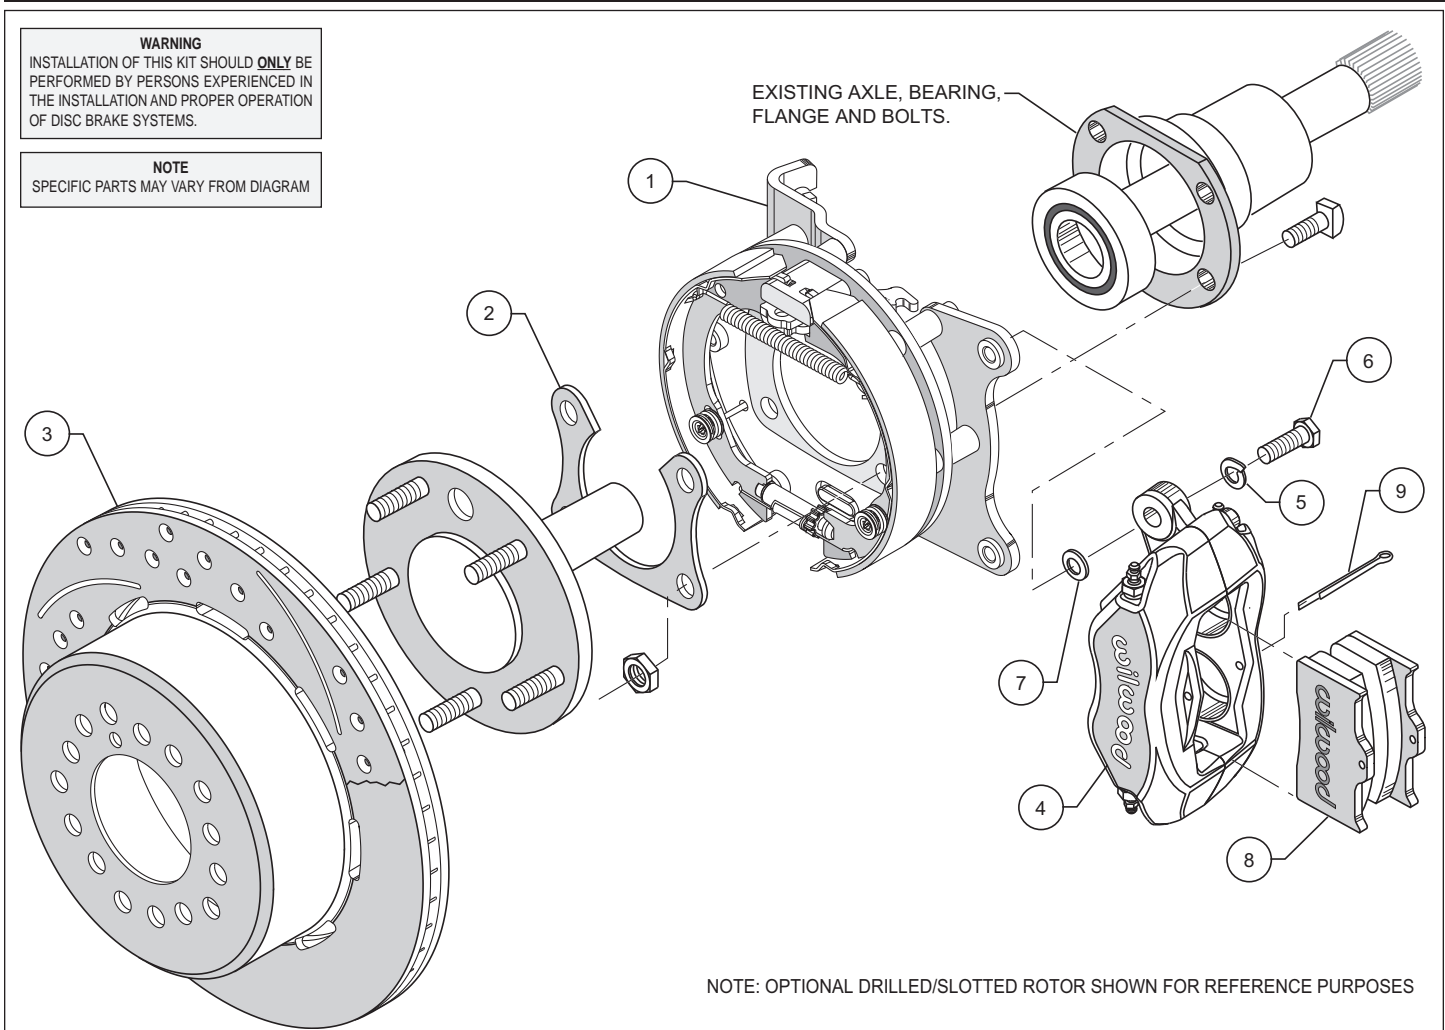

Figure 1. Typical Installation Configuration
A. **Full Circle Retainers** require the utilization of a qualified machine shop to press off the axle bearing and OEM retainer. Then have machine shop install new retainer (2), supplied with bracket kit with lip facing toward bearing, reference Figures 1, 4 and 5 (we suggest that you install a new bearing at this time, not supplied with kit).
- B. **“U” Retainers** require the removal of the OEM retainer by cutting or grinding a notch in the retainer to facilitate removal. Once OEM retainer is removed, install new retainer (2) supplied with bracket kit with the “U” opening facing up and the lip facing toward bearing, reference Figures 1, 4 and 5.